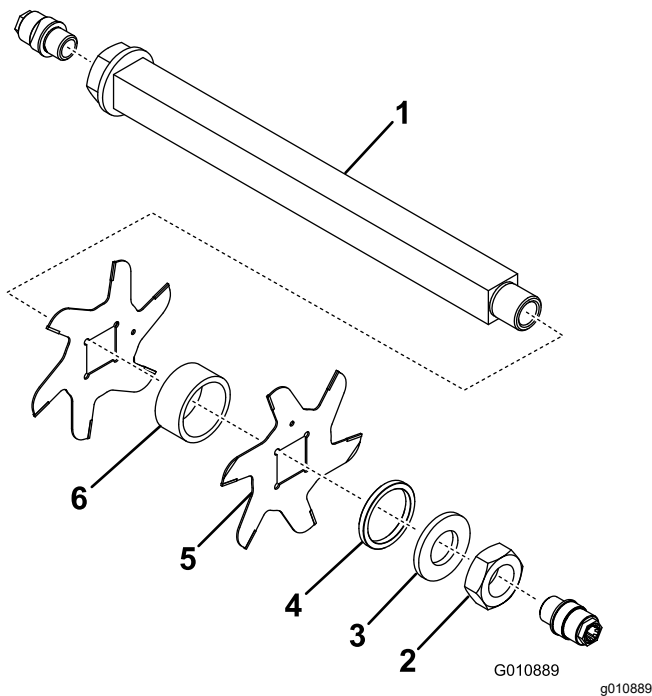

Figure 13
3. Remove the small spacer, the washer, the blades and the large spacers. Clean and lubricate the square shaft with a light coating of grease to simplify the assembly (Figure 13).